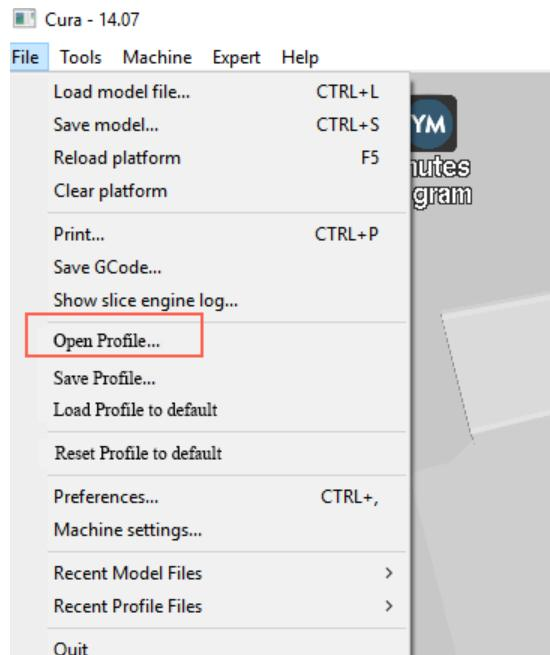

Figure 5.149 Import slice parameters
3. Set slice parameters, and select **File > Open Profile** to import these parameters, as shown in Figure 5.149.